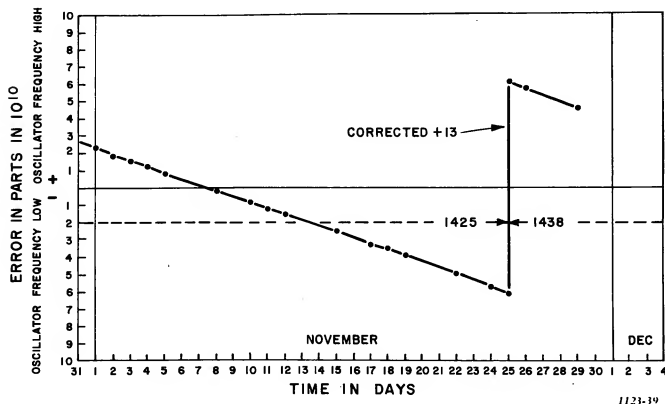
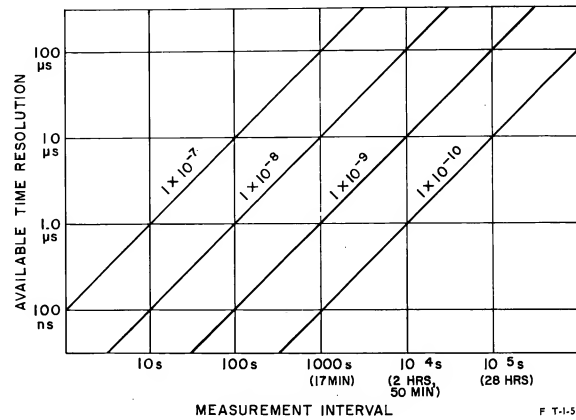

Figure 3-2. Typical curve plotted from data taken during a drift run.
Figure 3-3. Precision of measurement versus resolution and time interval.
A regular measurement (daily, etc.) will give the drift rate of the oscillator. The logged values of frequency offset can be plotted to give a visual representation of the oscillator's drift rate (Figure 3-2). The precision of the measurement and the minimum interval required are dependent on the quality of the received signal and on the frequency offset and drift rate of the oscillator. For a given available-signal resolution, an oscillator with a larger frequency offset will require a shorter interval to produce a detectable time error (Figure 3-3).
q. After a measured interval, determined by the accuracy desired (Figure 3-3), reset the delay switches for marker line-up and record the new figures.